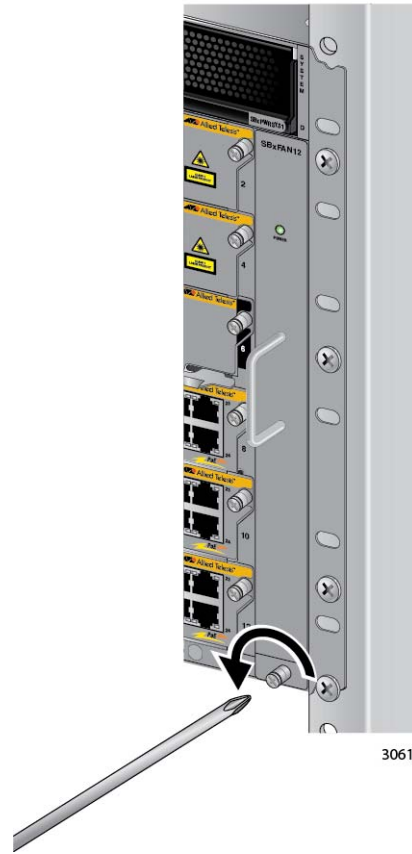

Figure 168. Loosening the Screw on the AT-SBxFAN12 Fan Module
2. Use a #2 Phillips head screwdriver to loosen the screw at the base of the fan module. Refer to Figure 168 on page 262.